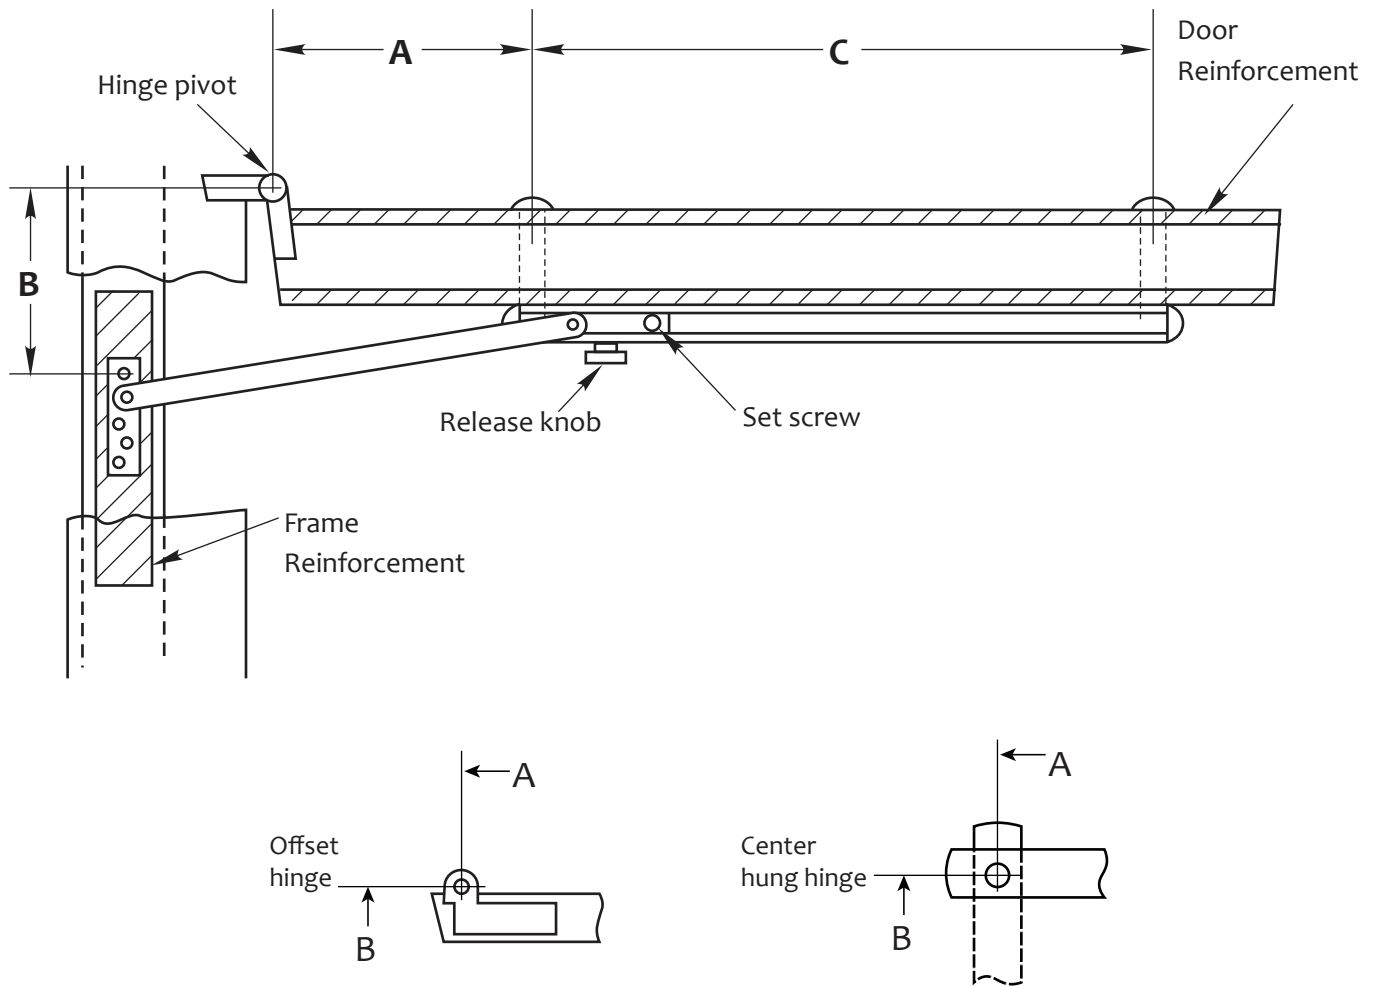
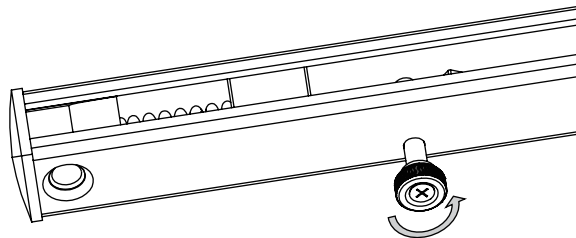

Figure 1 Installation diagram
Figure 5
- Select the correct dimensions from Figure 5 for Figure 1, according to the door opening and opening angle.
- Select dimension A and C, mark on the door for channel. (Figure 1)
- Select dimension B and mark on the door frame for jamb bracket. (Figure 1)
- Install the jamb bracket on the door frame according to dimension B. (Figure 1, 2)
Note: The jamb bracket shall be reinforced with a backer plate not less than 3/16" thick and 12" long. (Figure 1)
- e Turn the release knob counterclockwise 180° to verify that the hold-open function is disengaged. (Figure 5)